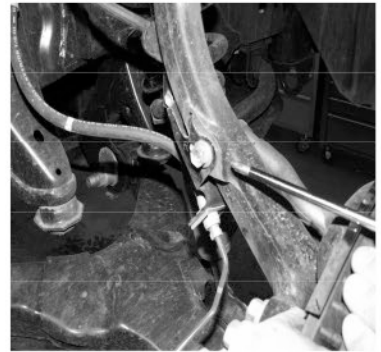

FIG B1
8. Remove the bracket that holds the brake lines to the steering knuckle. (12mm socket.) See (Fig. B1.)